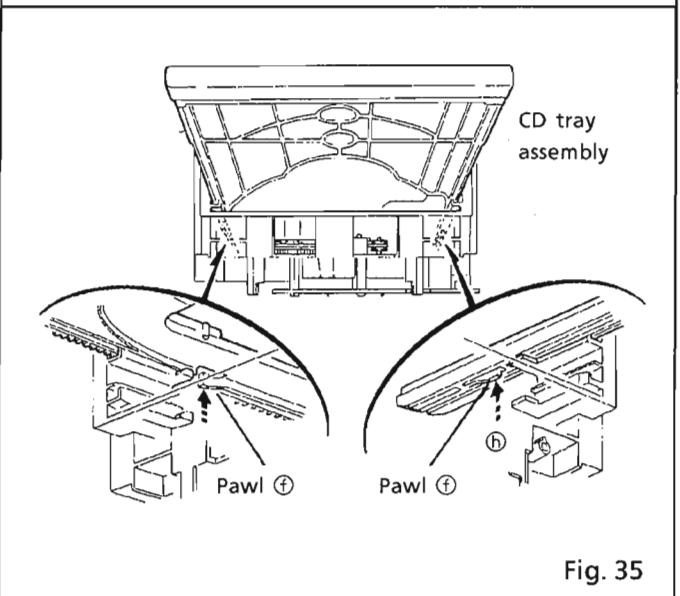

Fig. 35
14. Press 2 pawls (f, f) located rear side of the CD tray ass'y according to an arrow ⑪ to remove the CD tray ass'y. (See Fig. 35.)